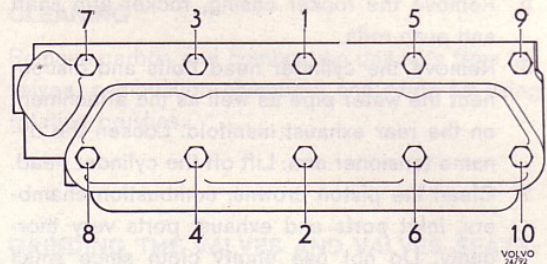
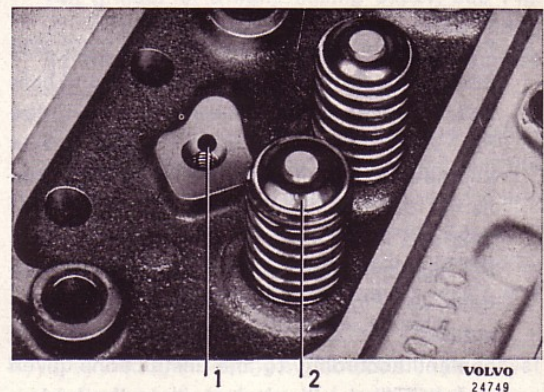
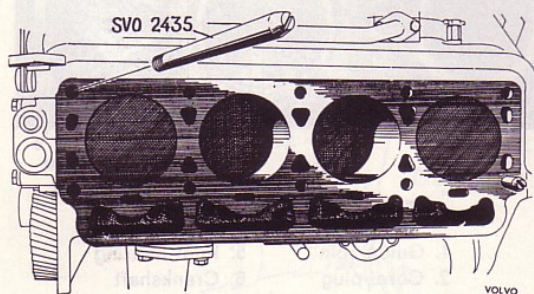

Fig. 17. Tightening sequence for cylinder head bolts
Fig. 18. Cylinder head
Fig. 20. Guide pins for fitting the cylinder head
The cylinder head is fitted with the help of guide pins (SVO 2435). The bolts must be tightened in a certain sequence as shown in Fig. 17, in order to avoid unnecessary stresses. Check that the oil hole (1, Fig. 18) for lubricating the rocker arms is clear.
9. Fit the valves. Screw the guide pins SVO 2435 into the block, one in the front right-hand hole and the other in the left-hand rear hole, see Fig. 20. Install a new cylinder head gasket and new sealing rings for the water pump and fit the cylinder head. Screw out the gasket pins and fit the bolts in these holes as well. For tightening sequence and tightening torques, see Fig. 17 and at the end of "Specifications". Fit the other parts. Fill up with coolant according to the instructions given under "Filling with coolant when the system has been emptied".
3. Screw down the guide pins SVO 2435, one in the front right and one in the left bolt hole, see Fig. 20. Fit a new cylinder head gasket and then fit the cylinder head. Screw in the cylinder
Tighten the bolts in the correct order and to the correct torque. See Fig. 17 and "Specifications".